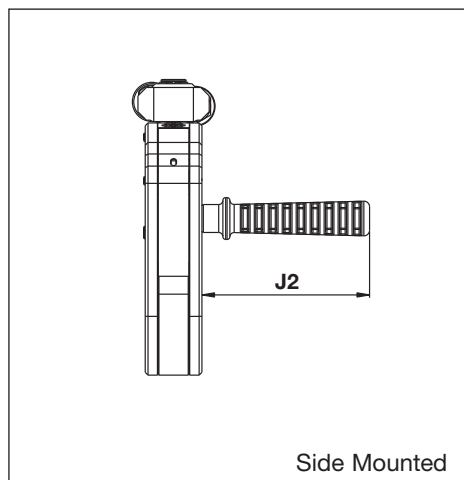

Fig. 26
6.1.4 Dimensions, SWH-Series Straight Positioning Handle (Fig. 26 - optional accessory)